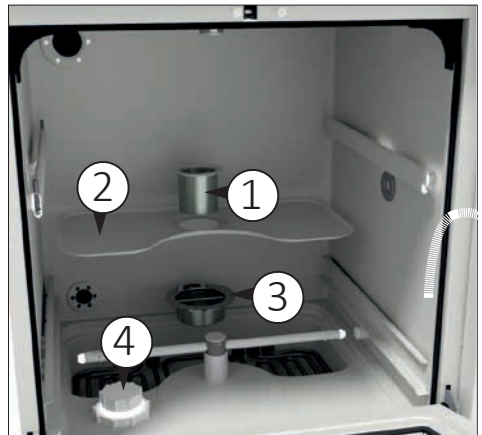

Fig. 11
The salt must be introduced through the chamber outlet inside the tank (4 Fig. 11). To introduce the salt, unscrew the cap (anti-clockwise) and fill the tank with salt funnel, paying attention not to pour salt outside the bowl then close the tank with the cap.
Filter unit (Fig. 11):
Insert the supplied filters in the specific positions. Constantly check the cleanliness of the filters, especially the chamber bottom filter (3 Fig. 11).
Insert the mesh filter (2 Fig. 11) and place it in the chamber seat. Finally, insert the central filter (1 Fig. 11) in the mesh filter hole.
- 6) After running 3-4 washing tests, clean the water filters placed in the lower compartment of the machine (Fig. 11).